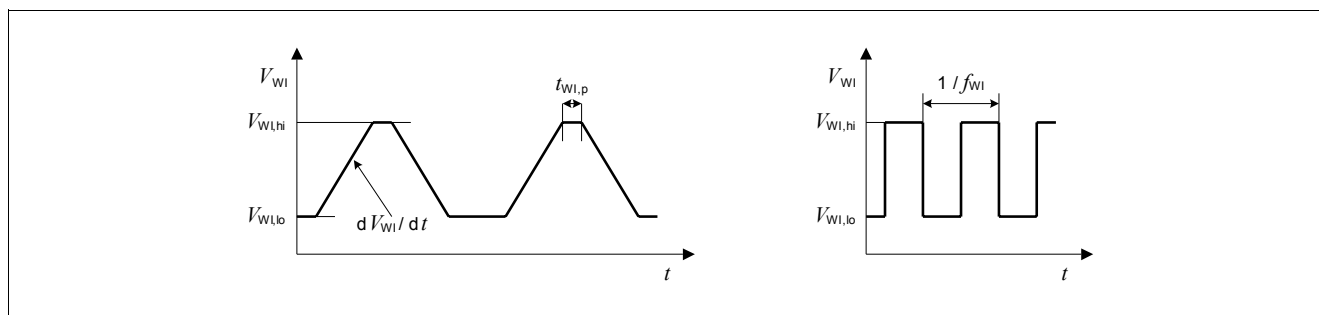

Figure 11 Test Pulses Watchdog Input WI
The watchdog is triggered by an positive edge at the watchdog input “WI”. The signal is filtered by a bandpass filter and therefore its amplitude and slope has to comply with the specification Item 8.2.10 to Item 8.2.14. For details on the test pulse applied, see Figure 11.
2) For details on the test pulse applied, see Figure 11.